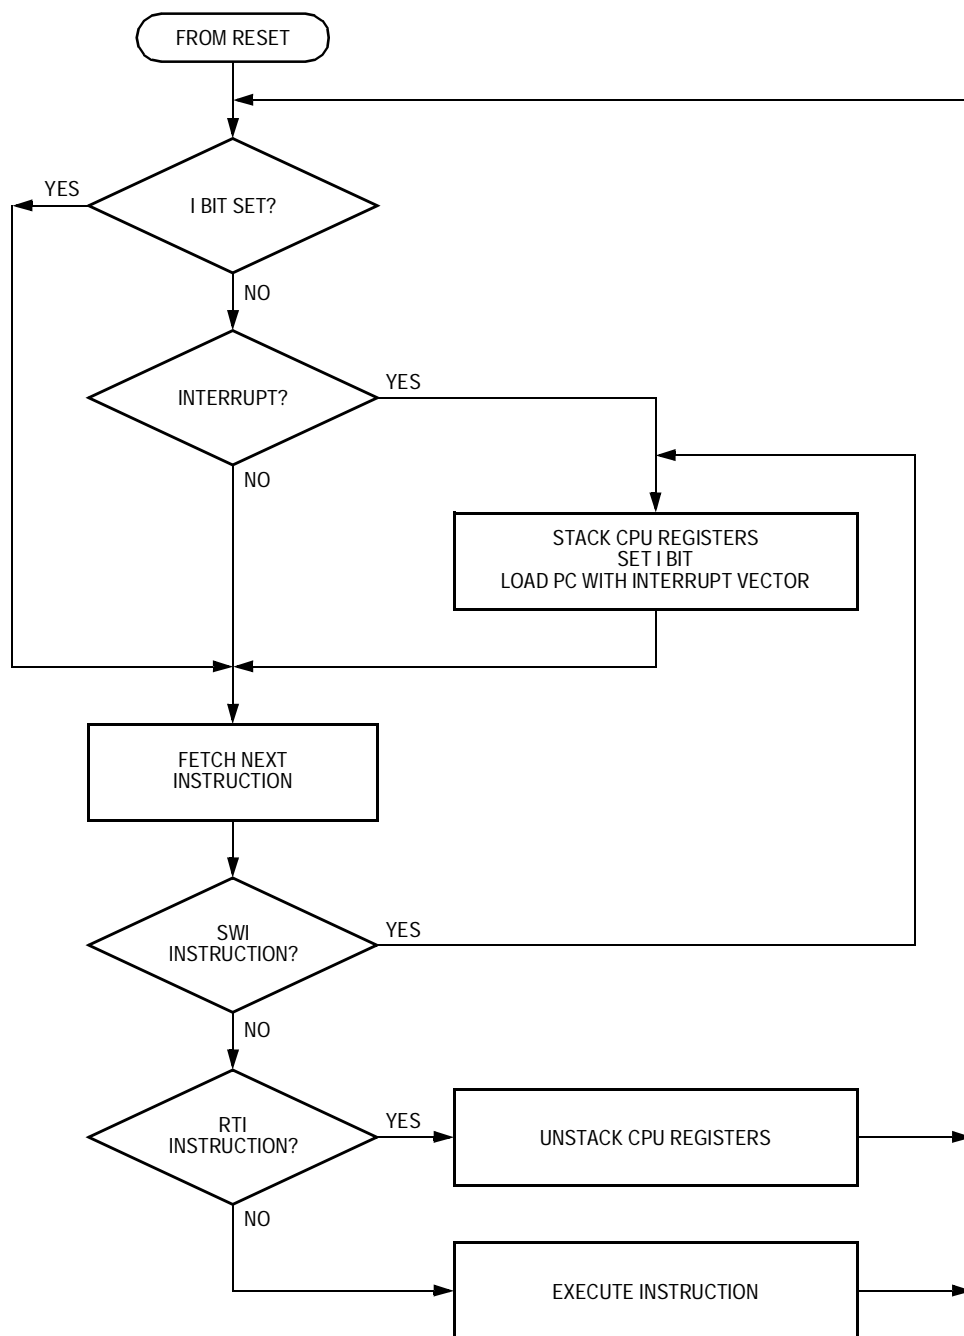

Figure 17-3. IRQ Interrupt Flowchart
NOTE: *The interrupt mask (I) in the condition code register (CCR) masks all interrupt requests, including external interrupt requests. (See Figure 17-3.)*